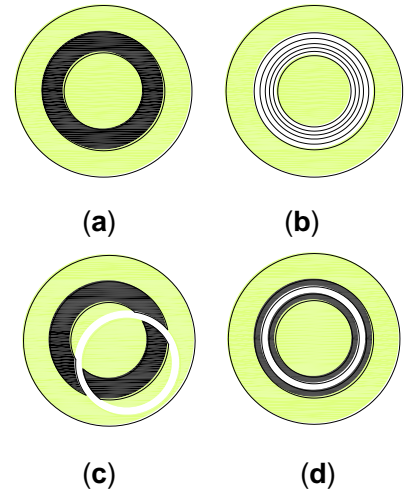

Fig. 21
- d. Observe from the telescope. The bright ring and dark ring should be coincided with each other as shown in **Fig. 21 (d)**.
- f. If the bright ring is still obscure as in **Fig. 21 (b)**, adjust the condenser focusing knob.
- g. If the two ring images are not coincided as shown in **Fig. 21 (c)**, adjust the two centering screws on the phase contrast condenser.